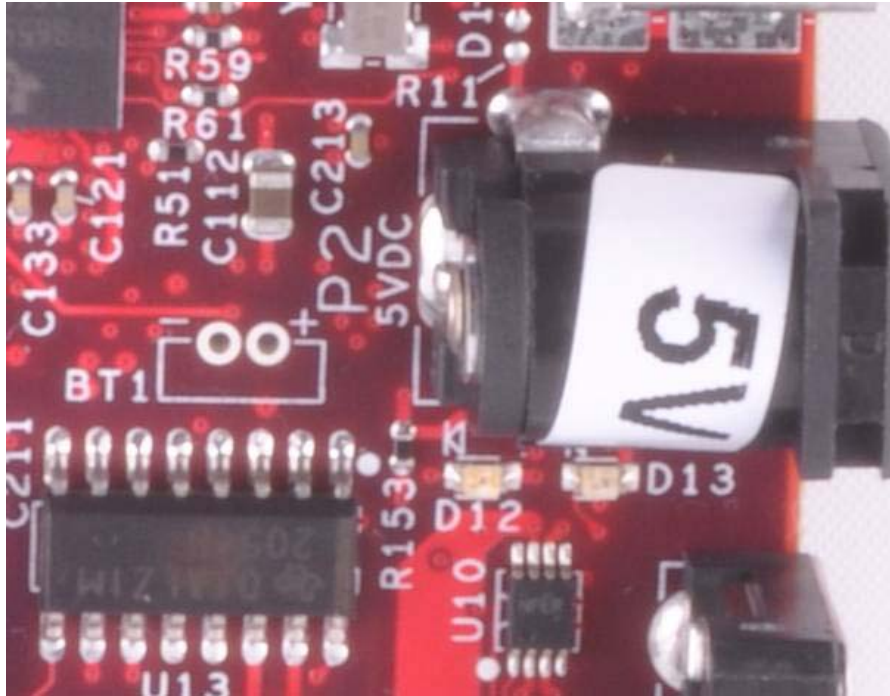

Figure 74. Optional Battery Location
- 4) Insert the (+) lead into the hole that is marked (+) on **Figure 74**.